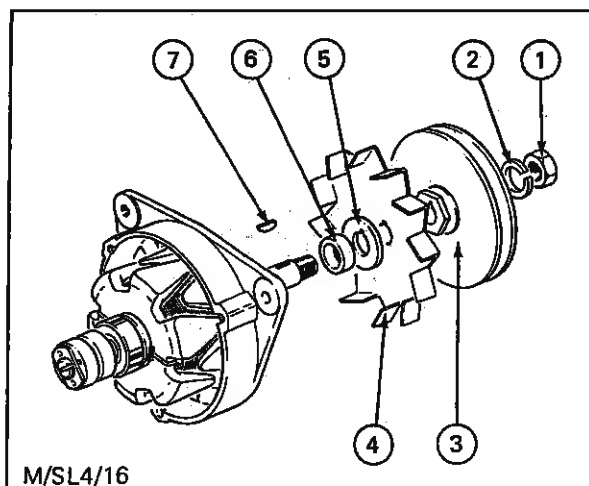

Fig. 23 - Removing Pulley and Fan
4. Remove nut (1) and washer (2) and detach the pulley (3), fan (4) and clamping plate (5). Apply a flat ended engineer's punch or chisel to the end of the Woodruff key (6) and drive key from the shaft - see Fig. 23. Remove and retain the bearing spacer (7).